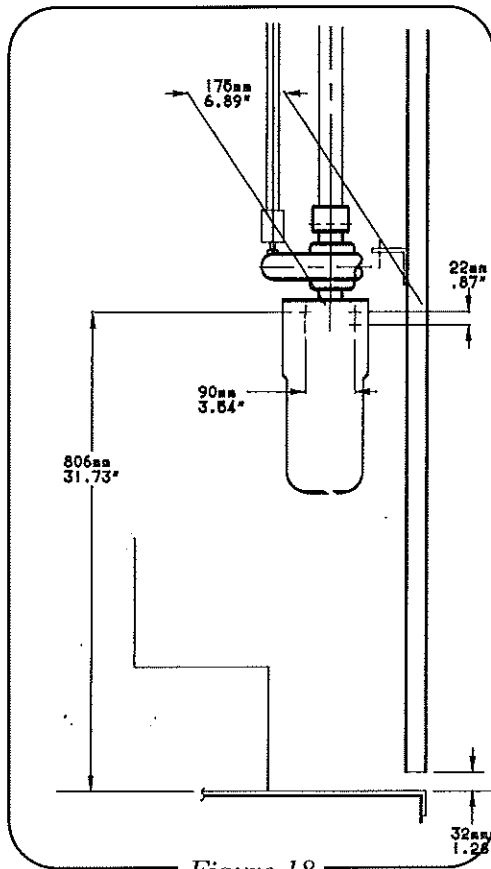

Figure 18
2. Verify the hole location for the spindle drive bracket mounting (*Figure 18*) and correct if needed. Attach the spindle drive with the supplied hardware.